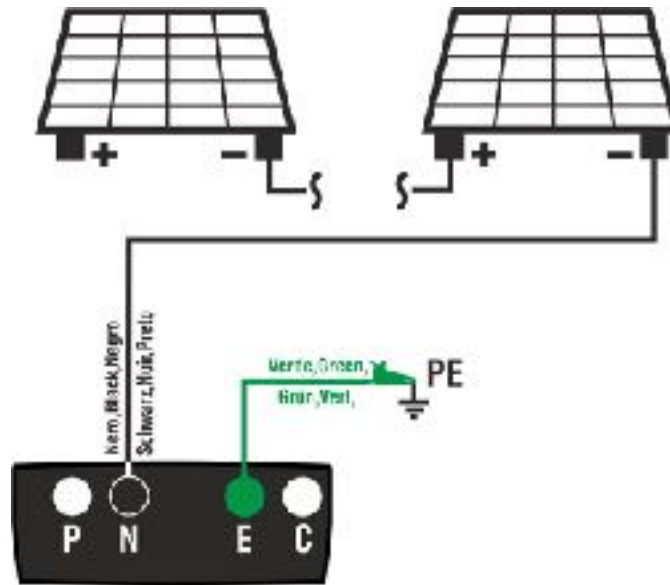

Fig. 8: Instrument connection for insulation measurement in TMR mode
- Connect the instrument to the PV string to be tested as shown in Fig. 8. **The test can be carried out also on more strings connected in parallel to each other. Please remember that it is also necessary to separate possible overvoltage protections connected to the cables of the string(s) and that it is recommended to measure upstream of possible blocking diodes.**